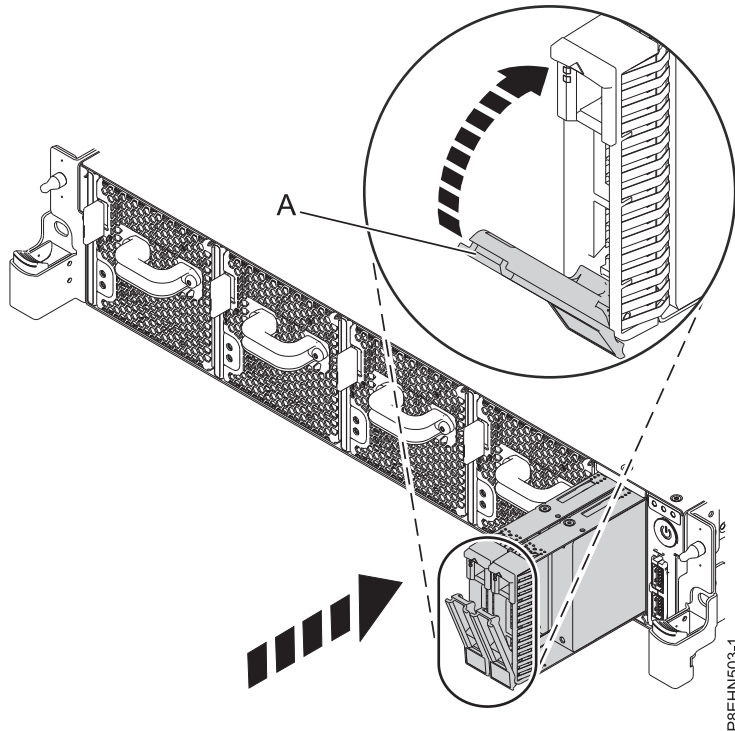

Figure 26. Disk drive lock detail
3. Lock the drive bay handle (A) by pushing in the handle release. See Figure 26 on page 20.
5. Slide the drive all the way into the system, and push the drive bay handle (A) in until it locks. See Figure 26.